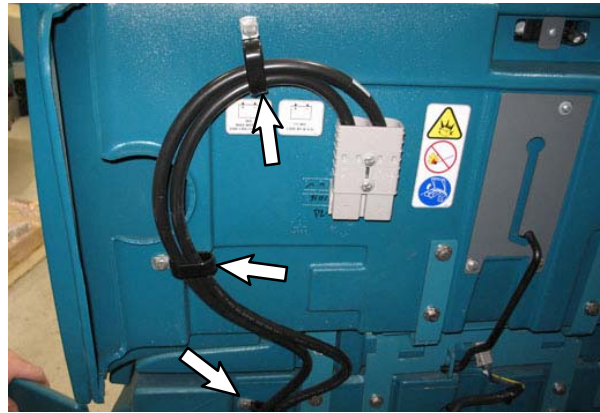
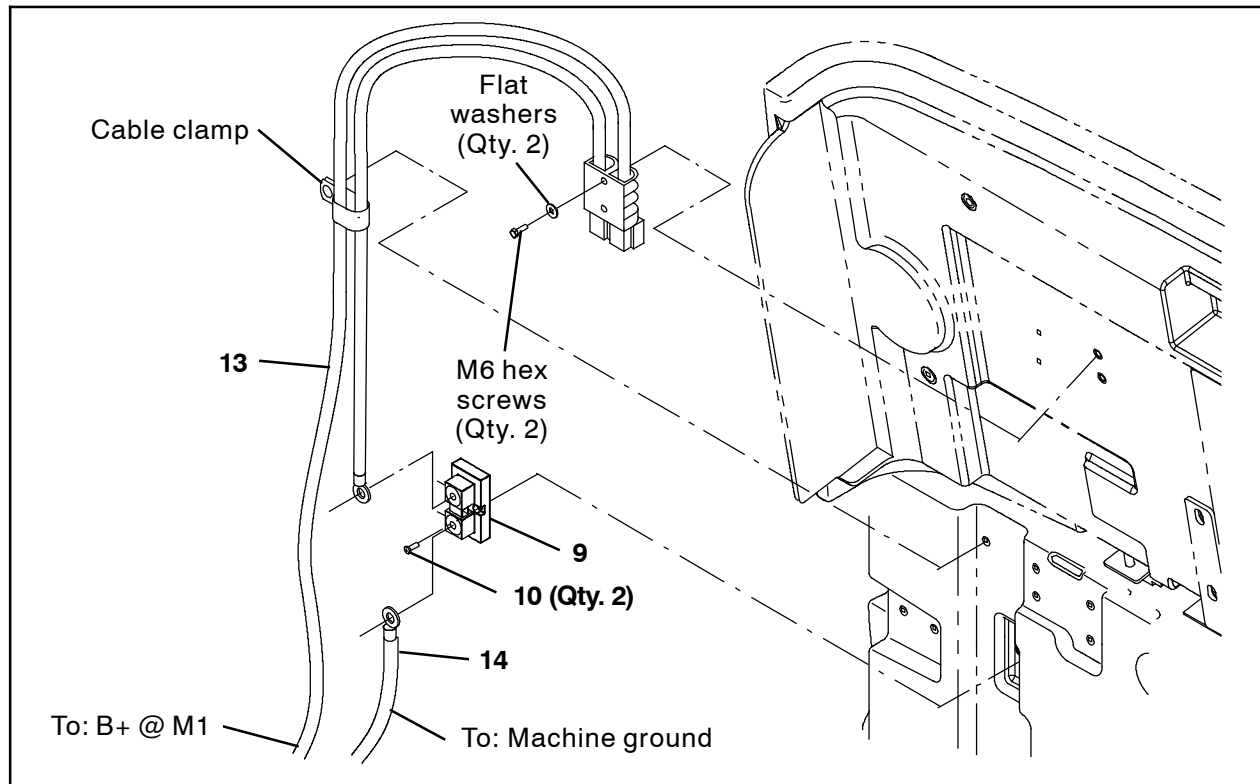
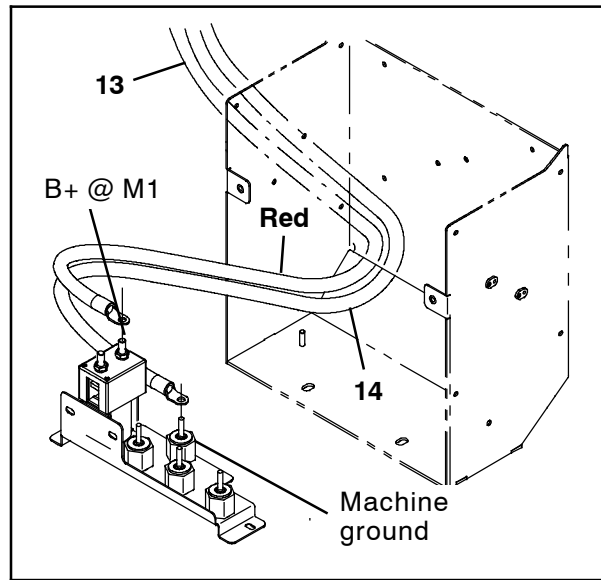

FIG. 5
FIG. 6
FIG. 9
1. Use two M4 pan screws (10) to install the shunt (9) onto the recovery tank. (Fig. 6)
2. Use the saved M6 hex screws and flat washers to install the new battery cable (13) onto the battery cover. (Fig. 4 / Fig. 6)
3. Route the battery cable (13) down through the three cable clamps and down to shunt (9). (Fig. 5 / Fig. 6)
4. Route the battery cable (14) to the shunt (9). (Fig. 6)
5. Connect the battery cable (13) shorter black cable to the shunt (6). (Fig. 6)
6. Connect the black cable (14) to the shunt (9). (Fig. 6)
8. Connect the other end of the black cable (14), connected to the shunt (9), to the insulated ground standoff (machine negative) inside the electrical enclosure. (Fig. 9 / Fig. 6)
9. Route the battery cable (13) red cable into the electrical enclosure and connect the red cable to the B+ at M1 location on the 36 VDC contactor. Do not completely tighten hardware. The telemetry harness (12) is connected to this location later in this bulletin. (Fig. 9 / Fig. 6)